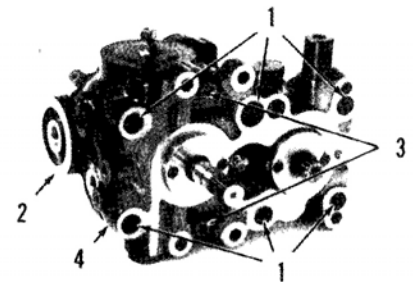

Fig. 56—Remove screws (1 and 3) to separate port block (4) from transmission case (2).
Remove screws (1 and 3—Fig. 56) from port block (4), then separate port block (4) from case (2). Note that valve plates (7 and 8—Fig. 57) may remain with port block (4) during separation, be